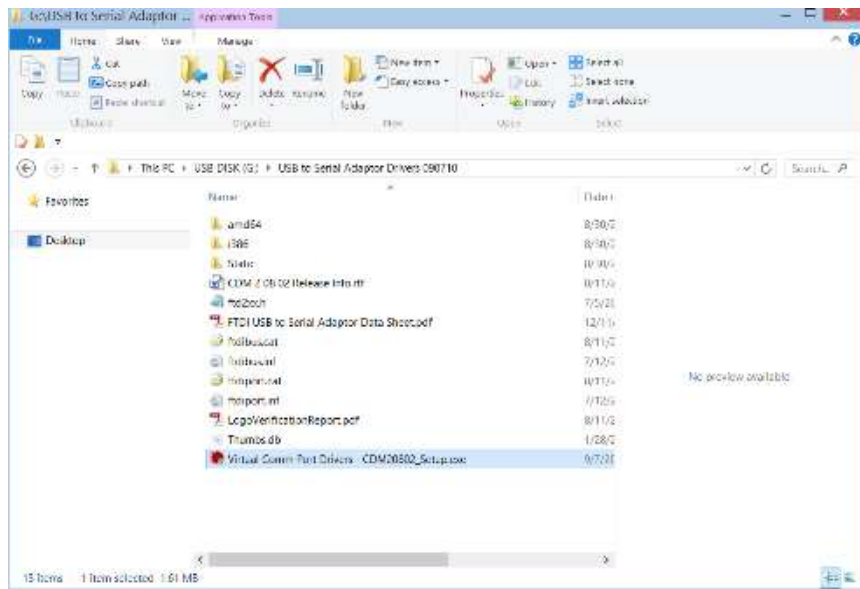

Fig. 1.2.1 – Select Virtual Comm Port Setup File located in USB to Serial Adaptor folder
- Step 3.** Once downloaded, navigate to the “USB to Serial Adaptor Drivers 090710” folder. Double click the “Virtual Comm Port Drivers - CDM20802_Setup.exe” setup file to begin installation. (If the file is zipped, unzip the file first, using a third-party unzipping tool. Then, open the folder and double-click the setup file to install the driver.) See Fig. 1.2.1 below.